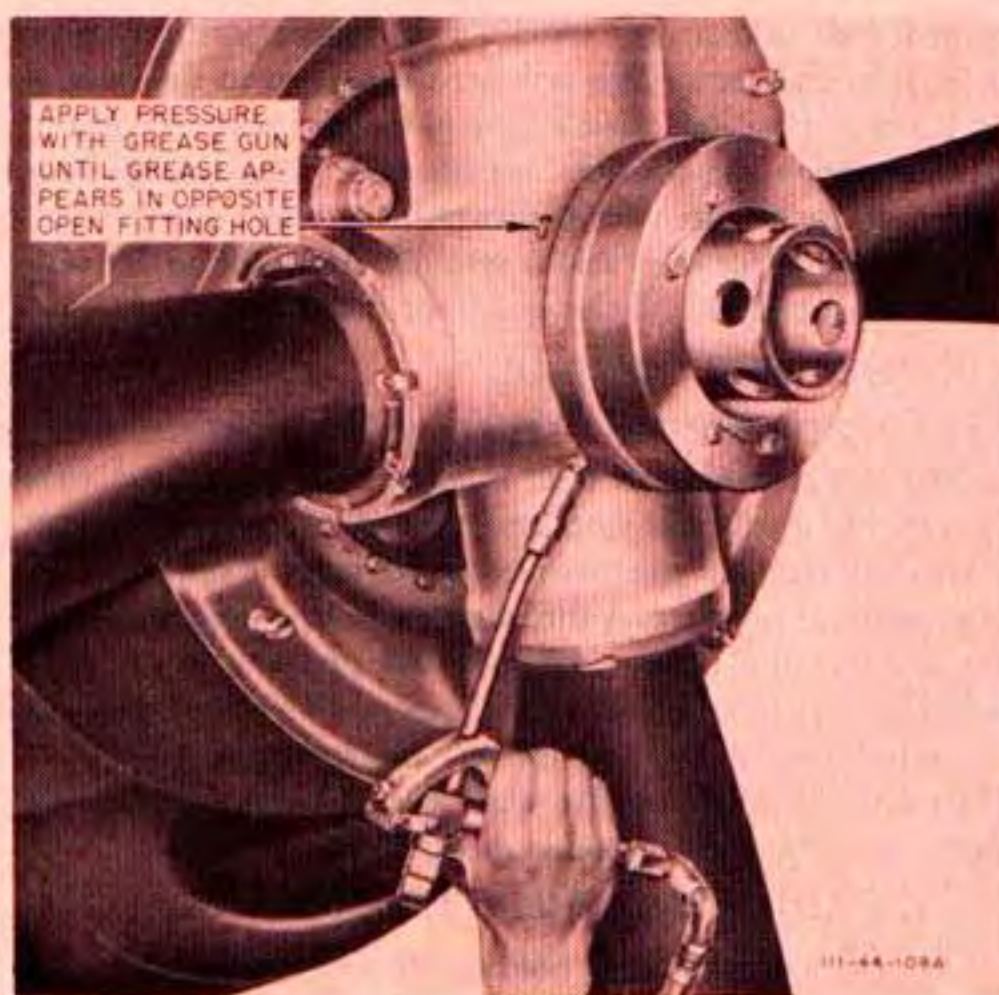

Figure 236V—Greasing Propeller Hub (Aeroproducts)
3. Using grease (Specification No. AN-G-4, Grade AA), place grease gun on one of the remaining grease fittings and apply pressure until grease appears at one of the open fitting holes. (See figure 236V.)